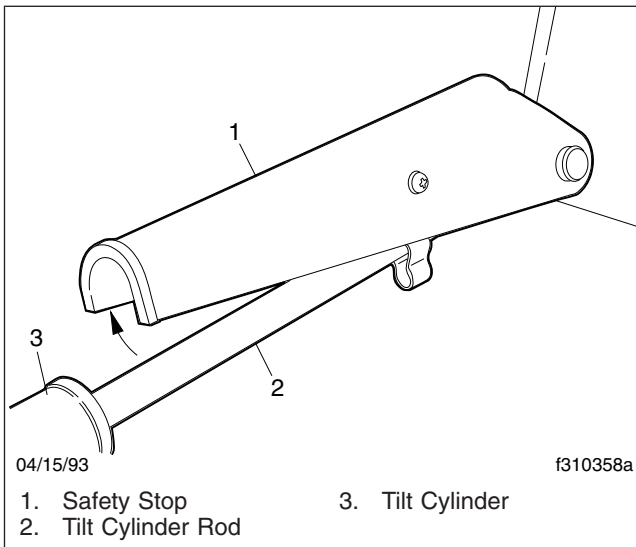

Fig. 2.16, Safety Stop Disengaged
4. Allow the cab to lower to the safety stop, then move the safety stop away from the right tilt cylinder rod. See Fig. 2.16.